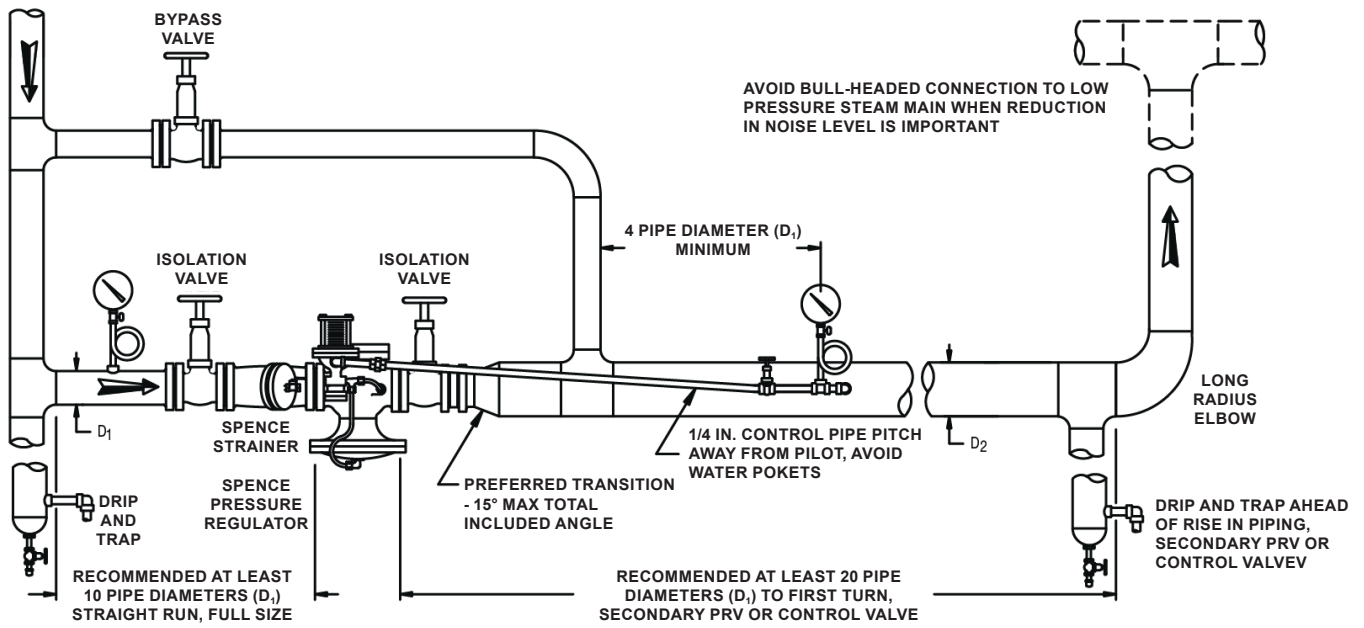

Figure 2. Type E2 Main Valve Installation
- Avoid damaging effects of scale and dirt in the pipe lines by using a strainer as shown in Figure 2.
2. Make this connection on the 1/4 in. pipe tap at the inlet of the main valve as shown in Figure 2.